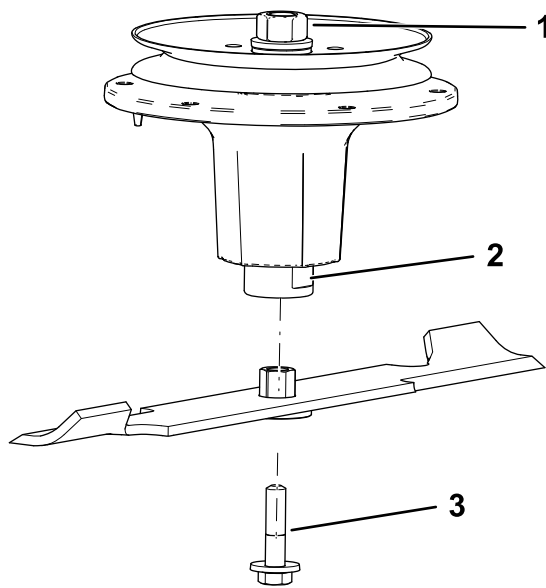

Figure 97
2. Install the bushing/blade assembly into the spindle shaft (Figure 97).